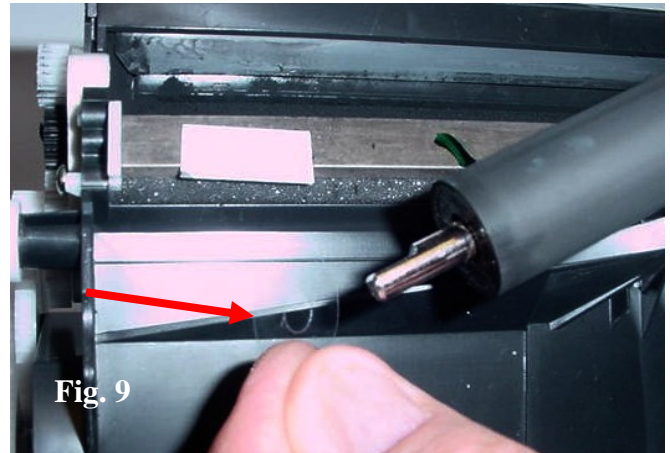

Fig. 9
9. Remove and clean the Teflon washers from each end of the developer roller (Fig. 9).